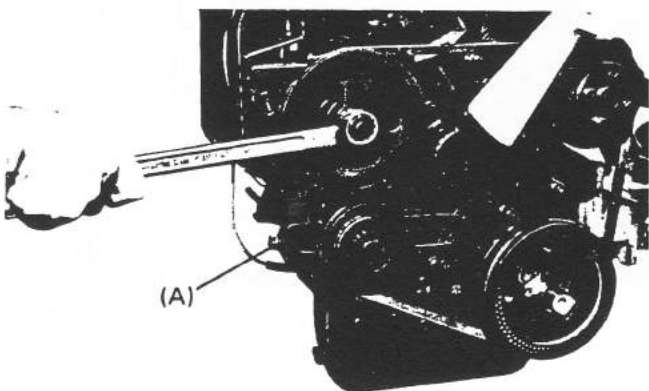

Fig. 32
- a. Screw in the adjusting bolt (A) to make the V-belt tight, and loosen the governor pulley lock nuts, as shown in Fig. 32.